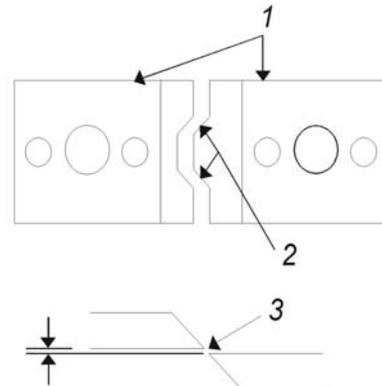

Figure 13 Die Alignment & Knife Clearance
- c. Visually inspect alignment of die forming area to insure equal spacing on both sides (Figure 13, Item 2).